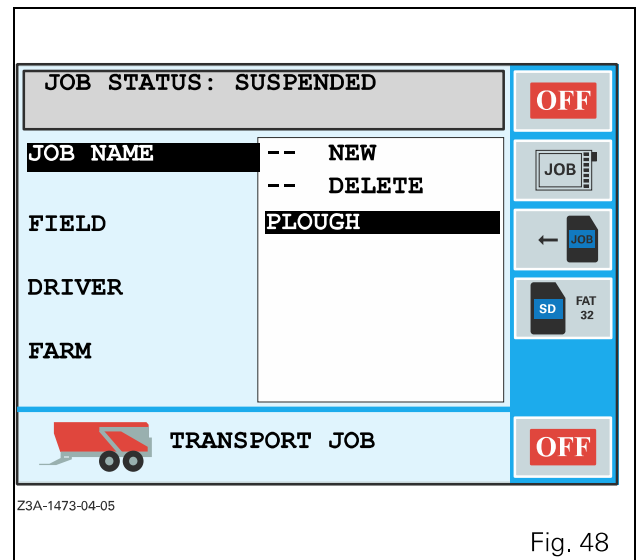

Fig. 48
- Validate by pressing the encoder. The window (Fig. 48) is displayed.